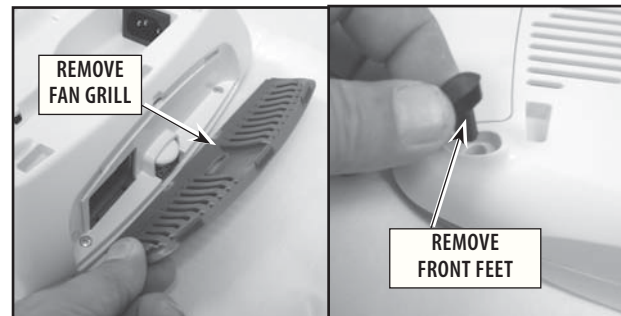

FIGURE 6.2
3. Remove the rear Fan Grill from the system to gain access to the two rear mounting screws. **Refer to Figure 6.2.**